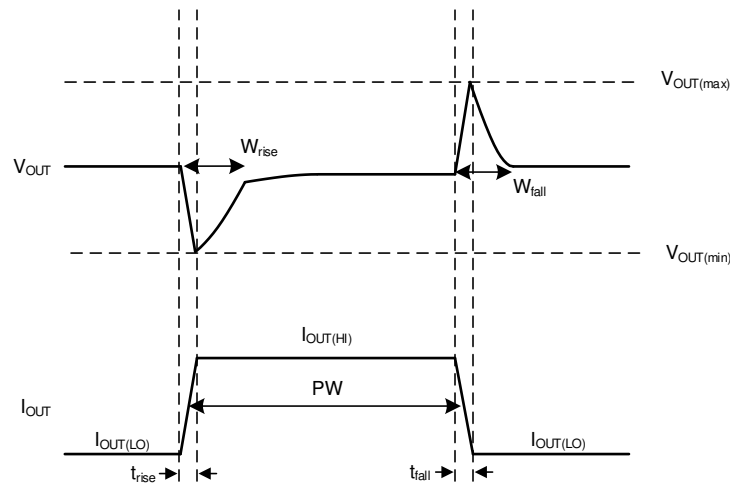

Figure 58. Simplified Load Transient Waveform
The transient response peaks ($V_{OUT(max)}$ and $V_{OUT(min)}$) are improved by using more output capacitance; however, doing so slows down the recovery time (W_{rise} and W_{fall}). Figure 58 shows these parameters during a load transient, with a given pulse duration (PW) and current levels ($I_{OUT(LO)}$ and $I_{OUT(HI)}$).